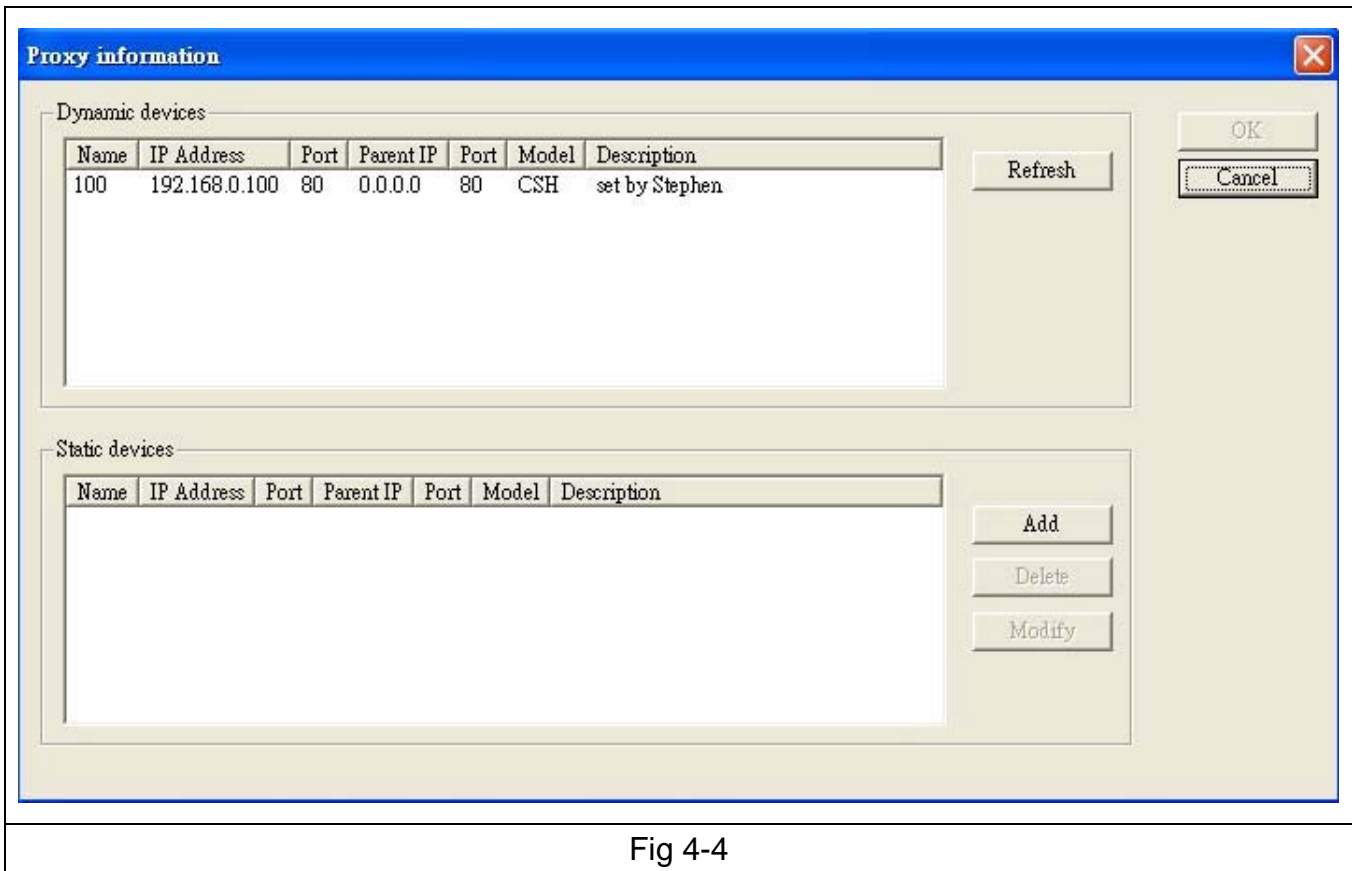

Fig 4-4
4. **Proxy Setting:** View the existing Switches in this LAN, and also add/delete/modify any Switch in the LAN for configuration convenience. (Fig 4-4)